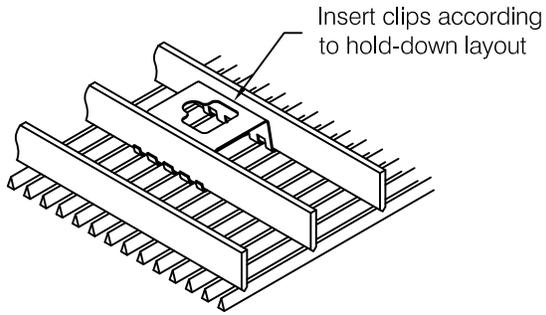

fig 1
- Step 3:** Install the clip portion of the hold-down so cut-outs in the clip align with the wires and the “teeth” snap-fit over the cross-supports, see **fig 1**.